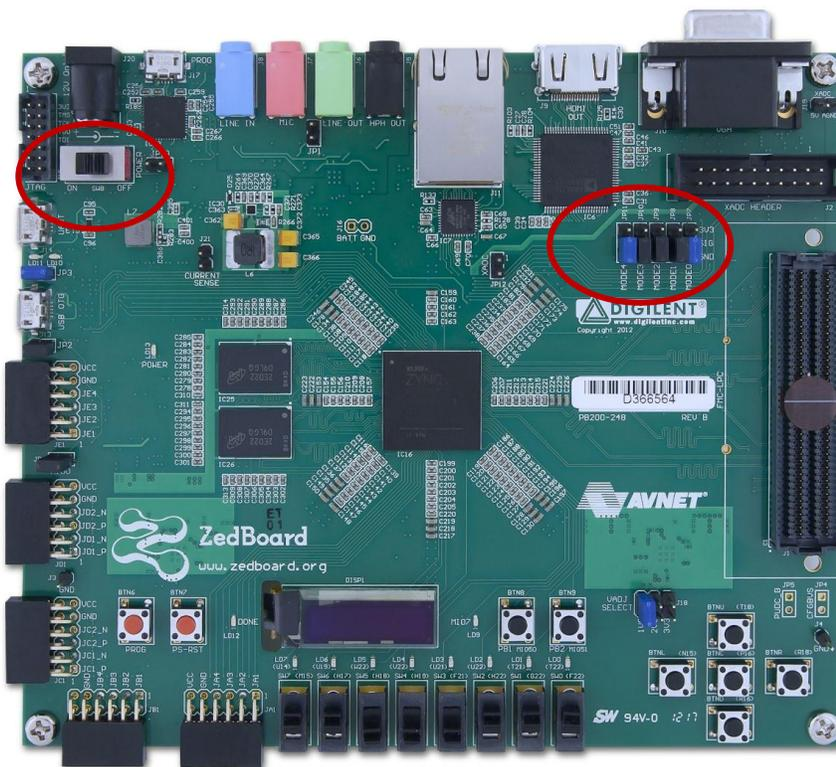

Figure 2-12: ZedBoard Power switch and Jumper settings
4. Power on the board using the switch indicated in Figure 2-12: ZedBoard Power switch and Jumper settings.